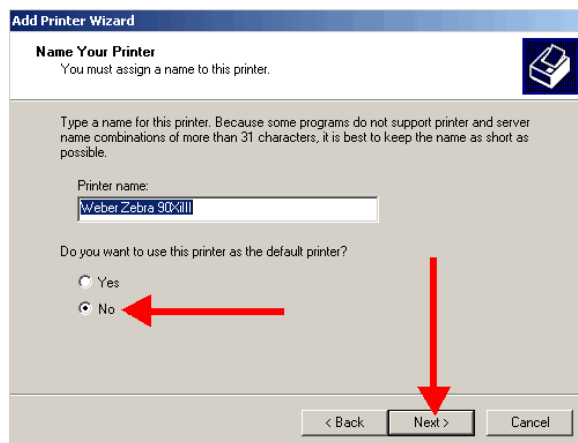

Figure 21a
25. Choose No to Default Printer, Share Printer and Print a Test Page. (Figure 21a, b, c)